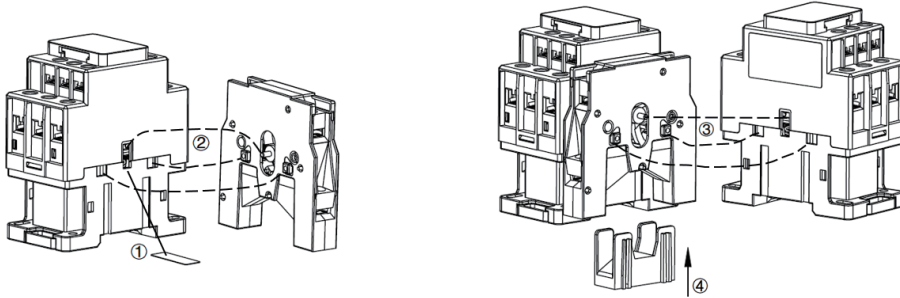

Fig. 7 Installation method of mechanical interlock FJ3 and mechanical electrical interlock FJ3e
9.4 The installation methods of the mechanical interlock FJ3 and mechanical electrical interlock FJ3e see Fig. 7: